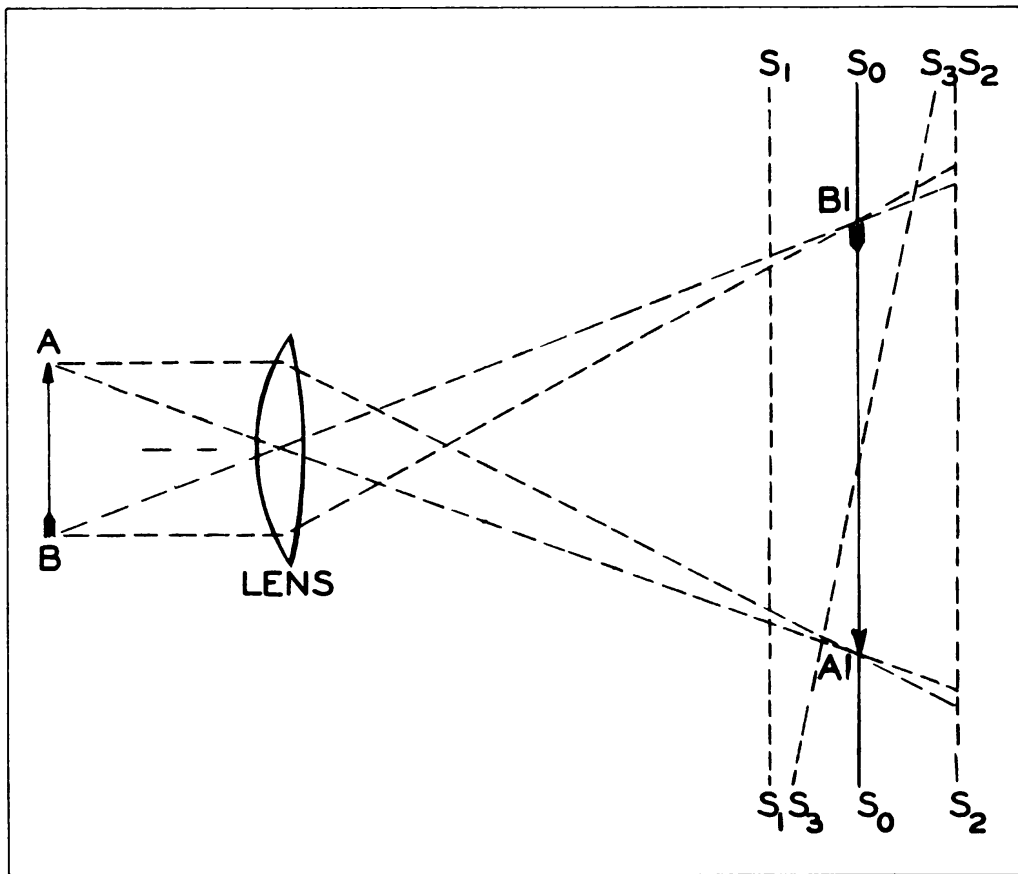
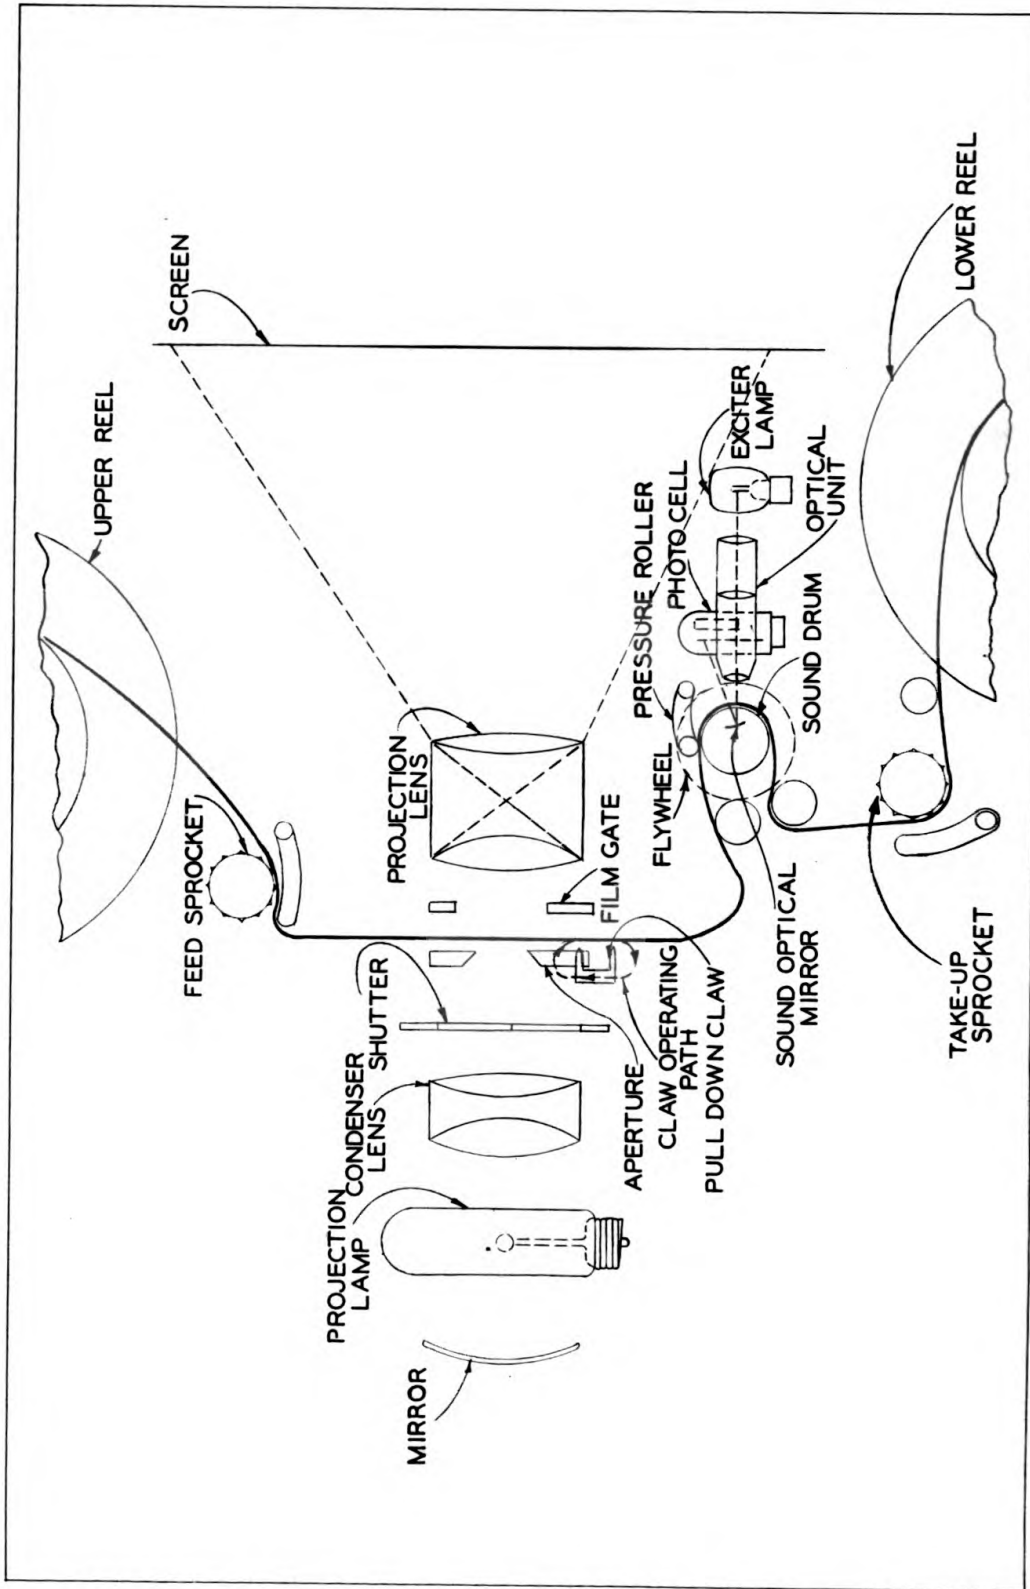

Figure 11—Image Projection
Figure 12—Schematic Diagram of Sound Motion Picture Projector
*a.* Images of an object may be projected upon a screen by means of a lens if the distances can be adjusted so that all of the light radiated from each point on the object is brought to a focus at corresponding points on the screen. Figure 11 illustrates the formation of an image  $A_1 B_1$  of an object  $AB$ , on the screen  $S_0 S_0$  by a converging lens.
c. The process of adjusting the distance between the object and the lens to form an image upon the screen is called focusing. By referring to Figure 11 again it may be seen that, if the screen was located at  $S_1 S_1$  instead of at  $S_0 S_0$ , the light from point A would not be brought to a point on the screen but would cover a small area causing the image to be blurred, etc. Likewise, if the screen was at  $S_2 S_2$  the image would be blurred because the rays would have diverged before striking the screen.
a. Motion pictures are projected in much the same manner as the simple object illustrated in Figure 11, with the exception that the motion picture film is the "object" and light rays pass to the lens through the film (object) instead of being reflected from it. Figure 12 illustrates schematically the theory of operation of a motion picture projector.
**14. The Motion Picture Projector.**—Figure 12 shows a schematic diagram of the projector mechanism.
**15. Sound Reproduction.**—Refer again to Figure 12 which shows the equipment necessary for the translation of the sound track on the film into electrical impulses.